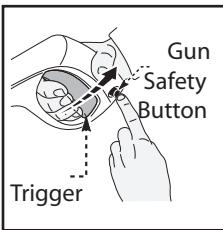

Fig. 16
- Release the safety lock button on spray gun (Fig. 16) while pointing the spray gun in a safe direction, away from yourself and others squeeze the trigger on the spray gun until there is a steady stream of water, letting the water and air out of the hose.